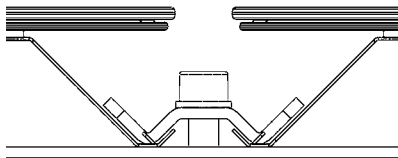

Fig. 5
- As an alternative to “Hook-In” mounting, the “In-Joint” variant (figure 5) can be used for AVANCIS PV modules. In this type of mounting, one SMART clamp holds 2 PV modules, except for the modules at the beginning and end of a module row. The SMART clamps shall only be mounted as shown in figure 4.